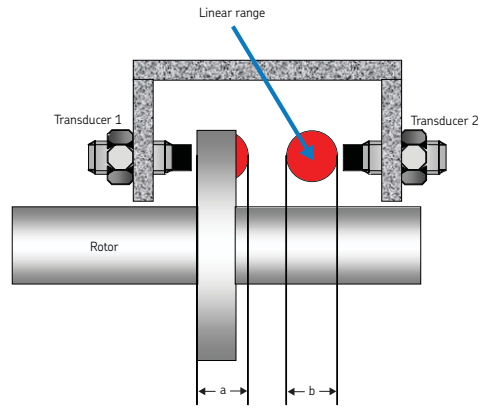

Figure 3
In **Figure 3**, the situation is shown where transducer 1 measures the gap, and transducer 2 is in saturation. As the rotor grows with respect to the case, the gap between transducer 1 and the collar increases as the gap between transducer 2 and the collar decreases, the increase in transducer 1’s gap continues until it exceeds its linear range. At the same time, the collar exceeds the linear range of transducer 1, entering the linear range of transducer 2.
- Direct ECP signals, where the probe cable is connected directly to the internal digital driver of the SKF Multilog DMx. This internal driver linearizes the “true” probe curve using a digital algorithm, which results in a much larger usable measuring range than an analog driver: “equivalent” voltages from -2 up to -30 V DC can be observed. The “equivalence” comes from an input sensitivity (e.g. 4 V/mm). The SKF Multilog DMx converts by calculation the true curve to the desired straight line of 4 V/mm. In this case the scenario shown in **Figure 3** will still apply, except the ranges are larger than analog driver systems.